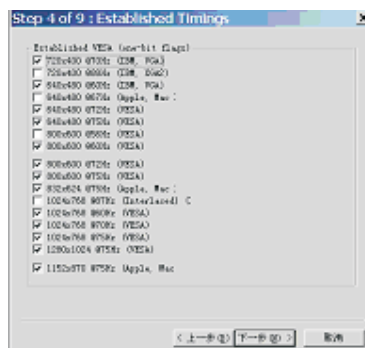

Fig. 16
3. Click Next , bring up Fig. 16.